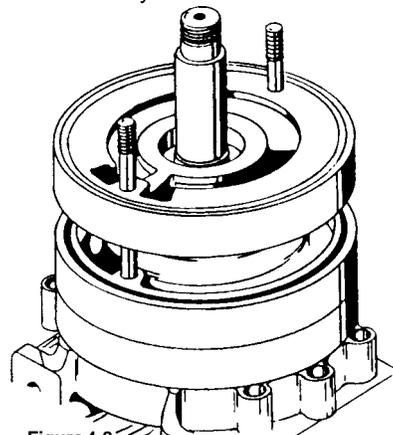

Figure 4-8
11. Slide another left hand channel ring (#10B) into place with the water channel facing up.(refer to figure 4-8) This time, however, place the large inlet opening in the "five o'clock" position. By locating successive stages 180 degrees from the last, hydraulic loads are radially balanced.